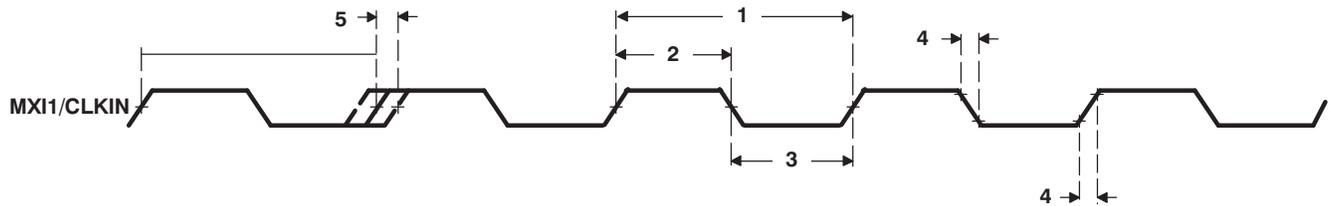

Figure 6-6. MXI1/CLKIN1 Timing
Table 6-4. Timing Requirements for MXI1/CLKIN1⁽¹⁾ ⁽²⁾ ⁽³⁾ (see Figure 6-6)
Table 6-7. Timing Requirements for RTCXI^{(1) (2)} (see Figure 6-6)